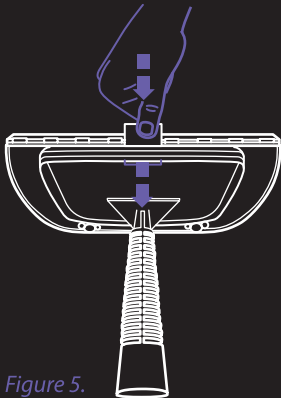

Figure 5.
4. To remove the window/door cleaning tool, simply pull the tab to release the fabric steamer tool (Figure 5).